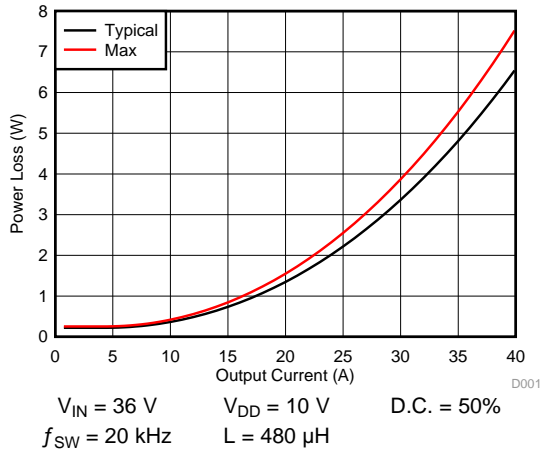
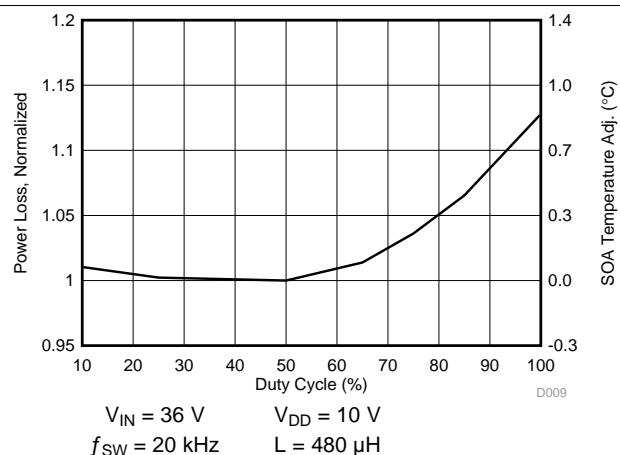

Figure 1. Power Loss vs Output Current
Figure 6. Normalized Power Loss vs Duty Cycle
The typical power block system characteristic curves (Figure 1 through Figure 6) are based on measurements made on a PCB design with dimensions of 4 in (W) × 3.5 in (L) × 0.062 in (H) and 6 copper layers of 1-oz copper thickness. See Application and Implementation section for detailed explanation. $T_J = 125^\circ\text{C}$, unless stated otherwise.
Figure 1 plots the CSD88599Q5DC power loss as a function of load current. The measured power loss includes both input conversion loss and gate drive loss.
In the example below, we show how to achieve this for the temperatures $T_C = 124^\circ\text{C}$ and $T_B = 120^\circ\text{C}$. First we draw from 40 A on the Y-axis at 124°C to 120°C on the X-axis. Then, we draw a line up from where this line crosses the T_X line to see that this line intercepts the SOA at 34 A. Thus we can assume if we are measuring a PCB temperature of 124°C , and a top case temperature of 120°C , the power block can handle 34-A RMS, at the normalized conditions. At conditions that differ from those in Figure 1, the user may be required to make an SOA temperature adjustment on the T_X line, as shown in the next section.
- Power loss at 30 A \approx 3.4 W (Figure 1)
- Normalized power loss for duty cycle \approx 1.12 (Figure 6)
- SOA adjustment for duty cycle \approx 0.7°C (Figure 6)